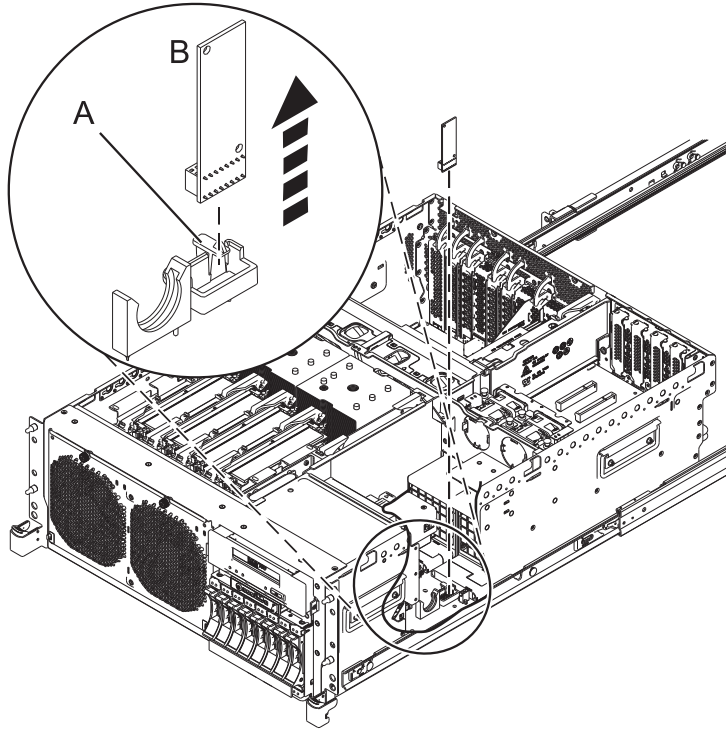

Figure 1. Removing the VPD card
- a. Press on the handle **(A)** to unlock the VPD card **(B)** from its slot on the system backplane. See Figure 1 on page 5.